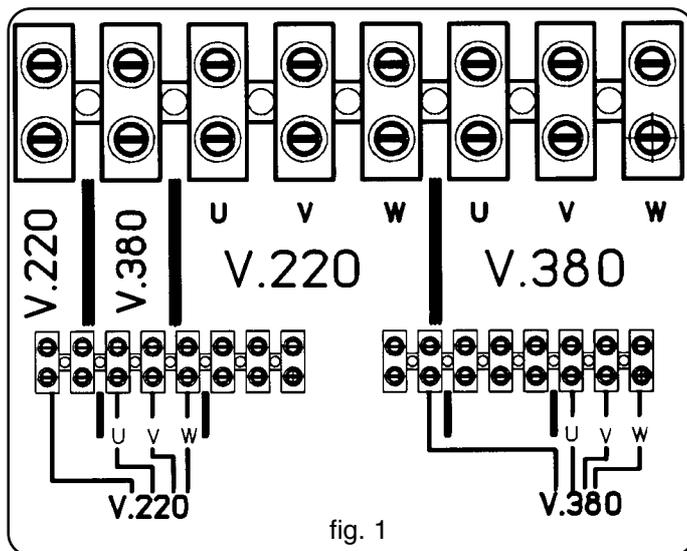

fig. 1
- **If you wish to change the input supply voltage, remove the upper cover of the case, locate the voltage-changing terminal board and arrange the connections as shown in figure 1.**